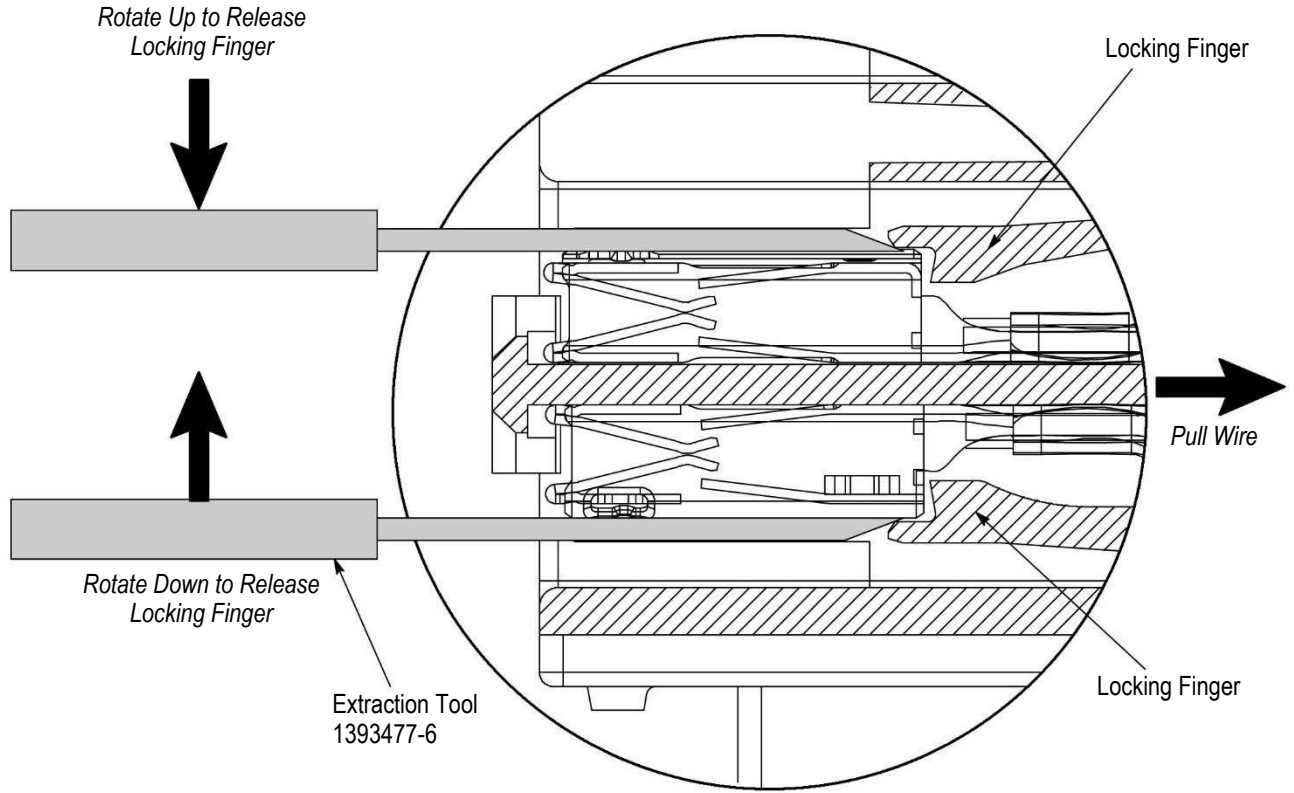

Figure 10
- Once the TPA has been removed, insert Extraction Tool 1393477-6 into front of plug housing assembly in the correct position to unlatch the locking lance of the socket contact as shown in Figure 10.
- Once the locking lance has been lifted up, simultaneously pull gently on the wire, from the rear, to remove contact and wire. See Figure 10.